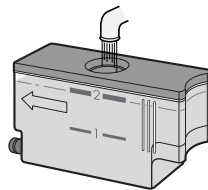

Figure 2
3. Fill the reservoir with **fresh cold tap water through the lid to the MAX** each time you begin to cook. (Figure 2) Do not fill the reservoir over the MAX mark.